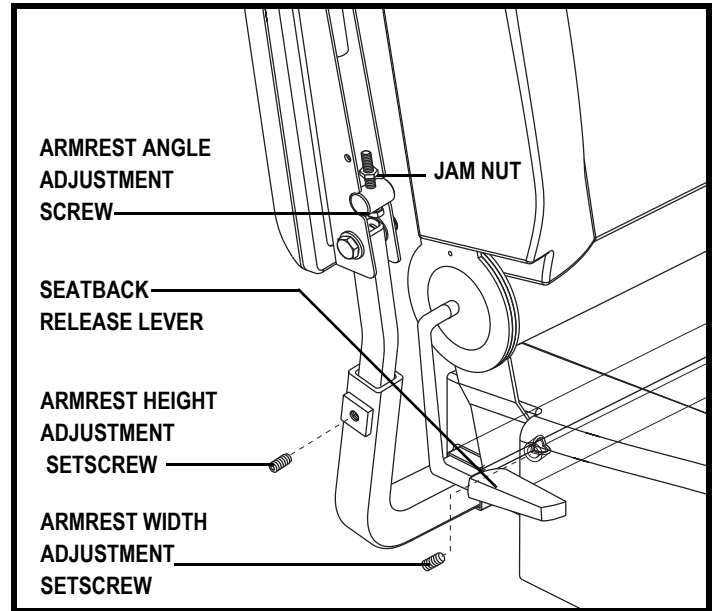

Figure 13. Armrest and Seatback Adjustments
If your power chair is equipped with a manual recline seatback, you can adjust the seatback angle with the seatback release lever. The lever is located on the right side of the seat base. See figure 13.
1. Locate the armrest width adjustment setscrew on each side of the armrest receiver bracket. See figure 13.
1. Loosen the setscrew on the armrest. See figure 13.